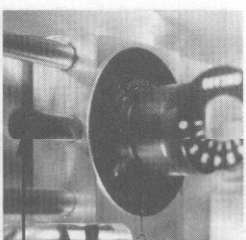

Figure 20
5. Pull out the chuck locking pin so that the chuck can be rotated by hand. The chuck and spacing plate can now be turned to position #1 (Fig. 20).